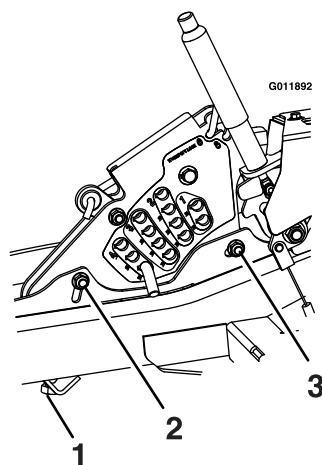

Figure 28
14. If the four deck links do not have enough adjustment to achieve accurate cut height with the desired rake, the single point adjustment can be utilized to gain more adjustment (see Figure 28).